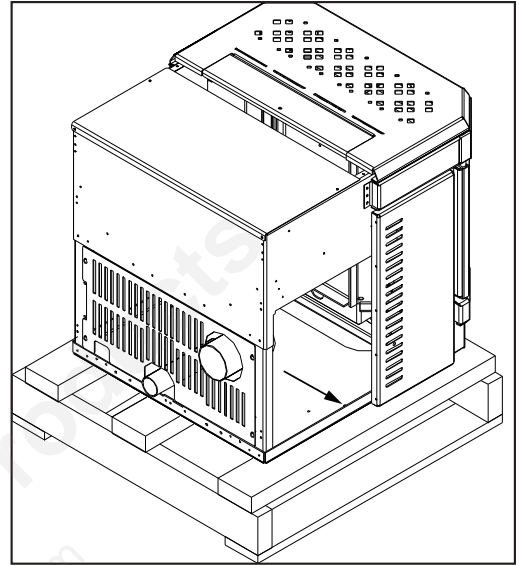

Figure 10: Screws to take out to remove insert unit from pallet.
**INSERT:** To remove your new insert stove from its pallet, remove the two (2) wood screws just inside the unit (see Figure 10). Remove the unit from the pallet and install the pedestal (refer to "INSTALLATION OF PEDESTAL - INSERT")